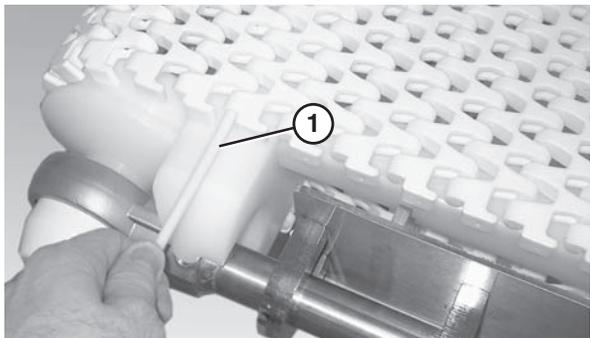

Figure 36
5. Insert the belt rod (Figure 36, item 1).